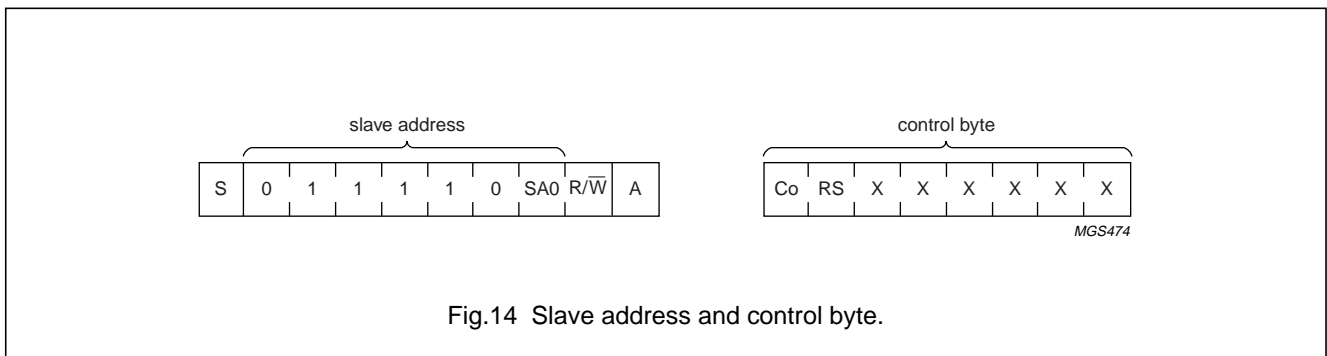

Fig.14 Slave address and control byte.
The I²C-bus protocol is illustrated in Fig.14.
The sequence is initiated with a START condition (S) from the I²C-bus master which is followed by the slave address. All slaves with the corresponding address acknowledge in parallel, all the others will ignore the I²C-bus transfer. After acknowledgement, one or more command words follow which define the status of the addressed slaves. A command word consists of a control byte, which defines Co and RS, plus a data byte (see Fig.14 and Table 1).